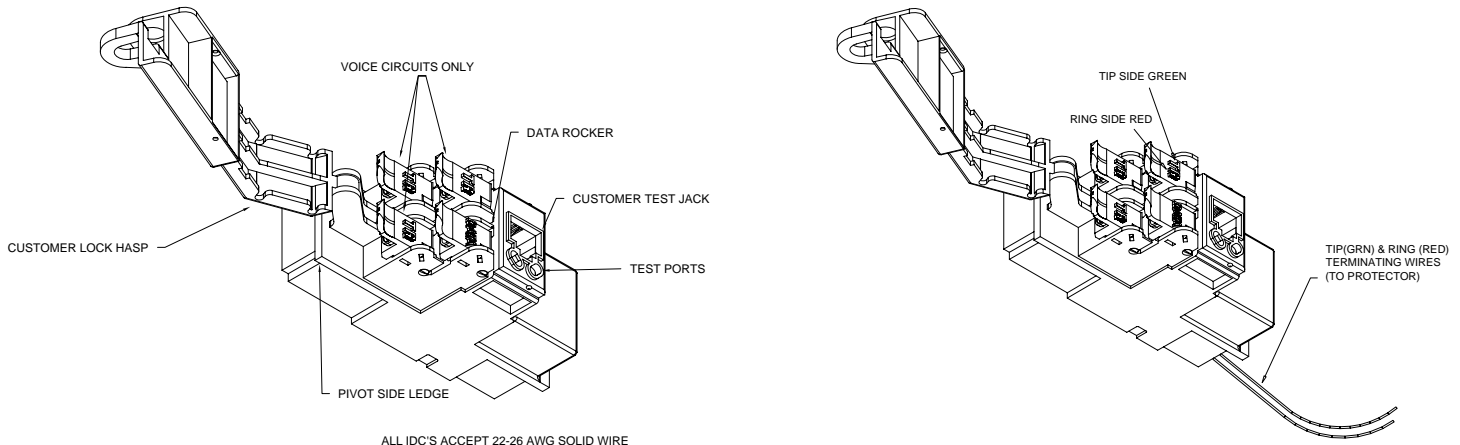

Figure 1
1.1 The TII 96-00-4 Series ADSL2+ Splitter Module maintains a constant direct connection between customer and central office service provider. The Splitter Module is equipped with a customer test jack (see Figure 1). The customer can insert the RJ-11 plug from a working telephone into this test jack to assure a signal is received from the central office. This is the only time the customer is disengaged (both DSL and POTS service) from the central office.
- 4.1 Three telephone voice (POTS) pairs and one DSL line (DATA) can be connected to a single Splitter Module. The customer has the option of installing a #10 Master lock around the customer lock hasp (see Figure 1).
- 4.2 When installing the first pair of customer telephone wires, always begin with the bottom terminating rockers (see Figure 1).
- 4.7 Lift all Splitter Module rockers to the open position as shown (see Figure 1).